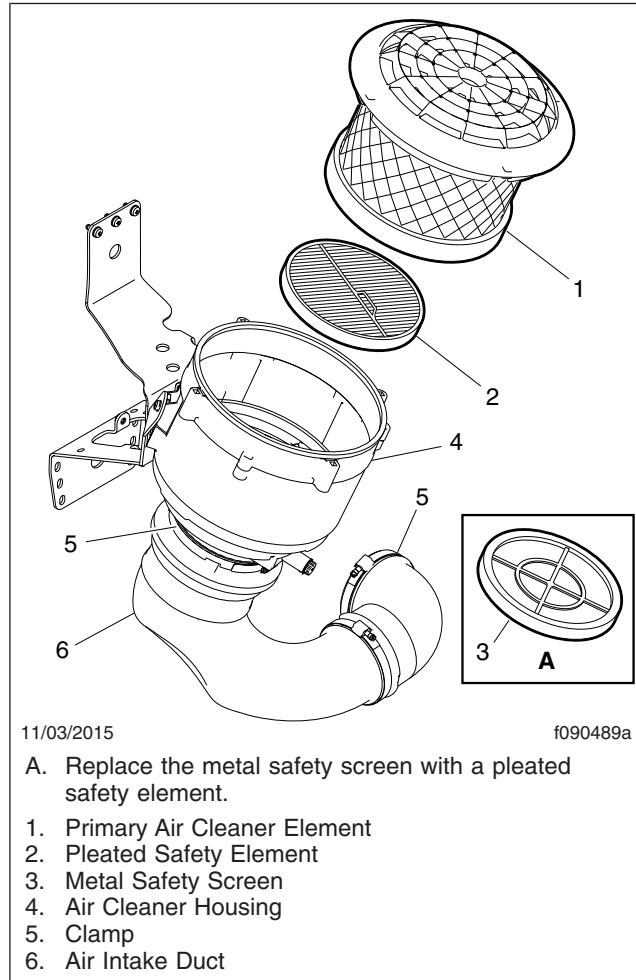

Fig. 2, Replacing the Metal Screen with a Safety Element
3. Remove the primary air cleaner element from the air cleaner housing. See Fig. 2.
6. Install a new pleated safety element in the air cleaner housing. See Table 2 and Fig. 2.